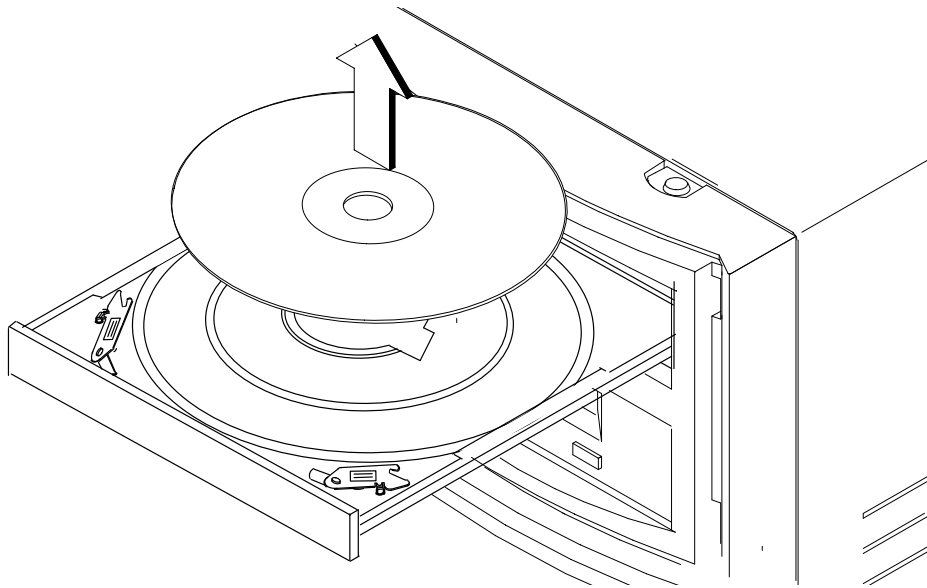

Figure 2-4. Removing the CD-ROM Disc From the Disc Tray (Horizontal Mount)
- 2.** Wait until the drive has fully ejected the disc tray, then remove the disc from the tray as shown in Figure 2-4. Be careful to touch only the edges of the disc.